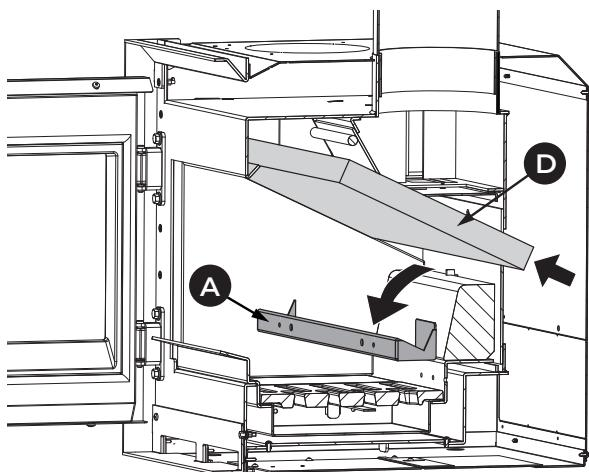

Fig. 8.1
1	Fig. 8.1 only for Apollo: Lift the deflector (D) and remove the post-combustion plate (A)